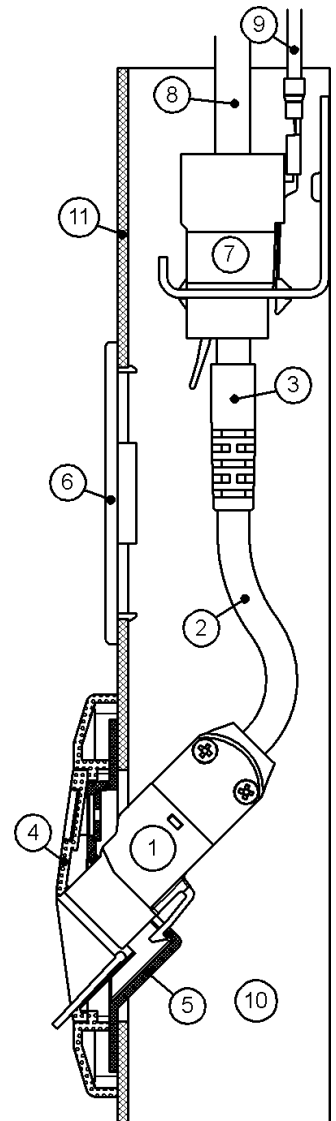
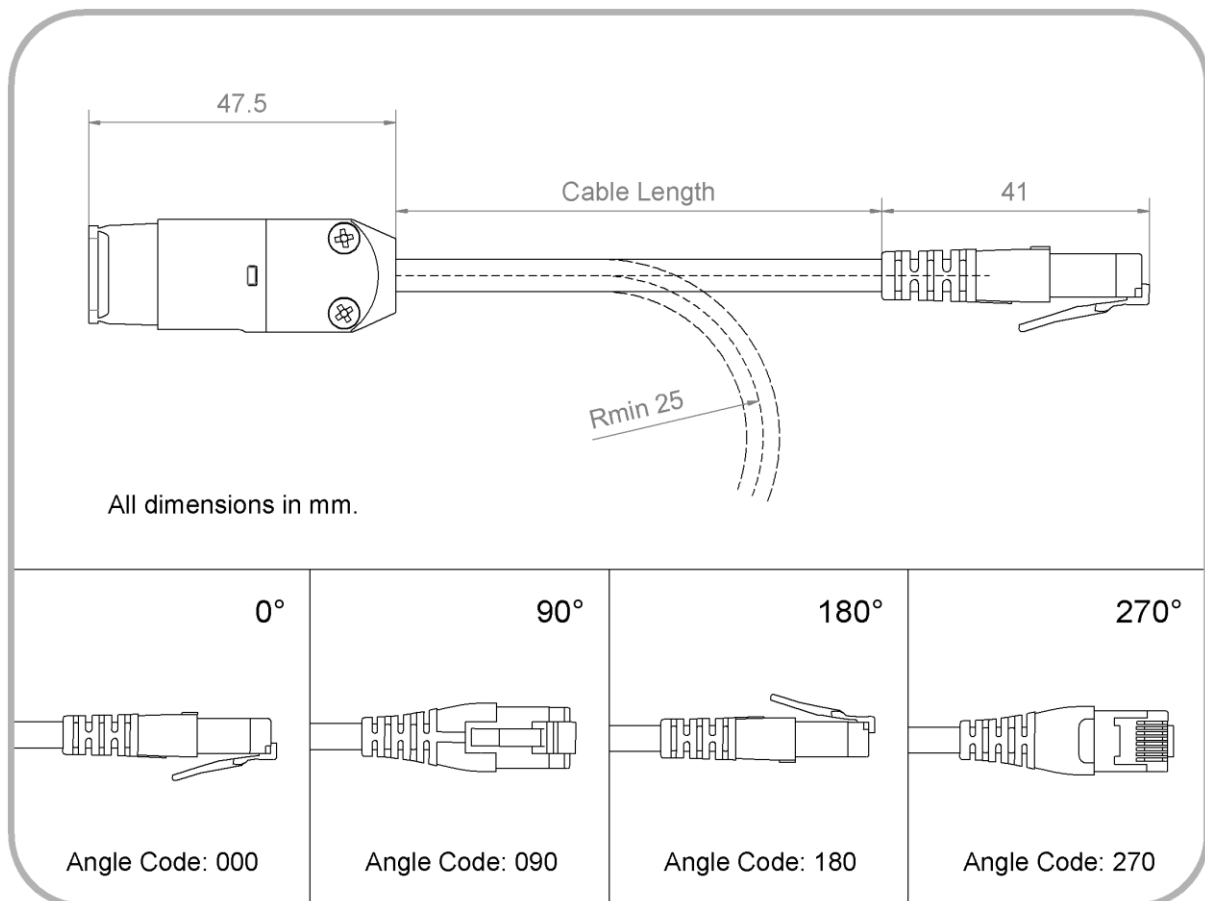
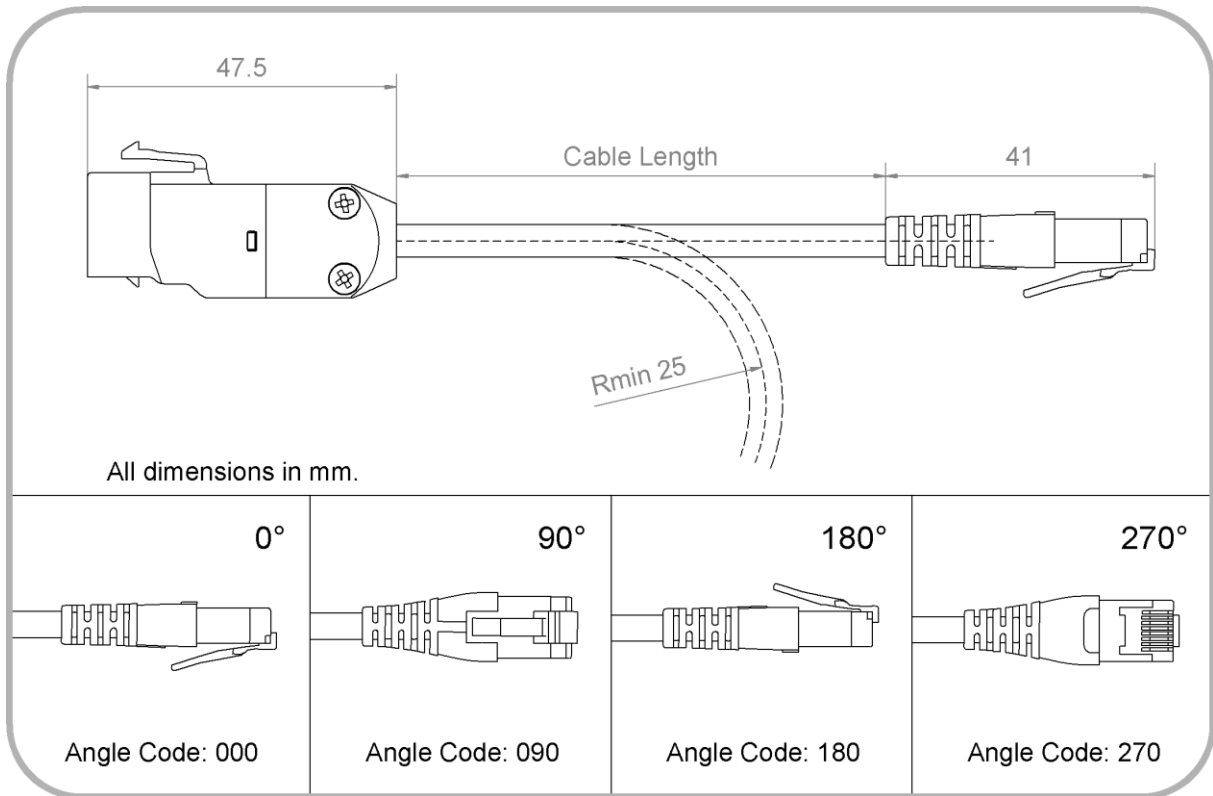

Figure 6
Figure 8. Technical drawing for EN-65S, showing definition of cable length, as well as angle codes.
Figure 9. Technical drawing for EN-65K, showing definition of cable length, as well as angle codes.
Figure 6 shows a typical assembly within a cable duct (10), with cover (11). The Network Isolator EN-65K (1) is shown installed in a Keystone-compatible wall outlet, which usually consists of a support frame (5) and a plastic front panel (4). The RJ45 plug (3) of the Network Isolator is to be inserted into a RJ45 jack module termination (7) at the end of the permanently installed data cable (8). When retrofitting the Network Isolator EN-65K (1) into network channels, the existing RJ45 jack module from the wall outlet can be shifted back within the cable duct (10), and used as the connection to the Network Isolator.
The transmission properties of permanent network installations fitted with EN-65 Network Isolators can be checked with cable certification devices which are suitable for testing electrically isolated cable sections. To be able to conduct such an inspection, the test equipment must be configured in an AC wire-map mode. The entire cable route, including the Network Isolator, can be tested to EIA/TIA-568 Cat.5e or ISO 11801 Class D. Testing of the cable shielding and the conductor resistance is not possible in this mode. If however, these tests are required, or if the quality of the cable route itself needs to be tested (without the Network Isolator), then testing can be performed by bypassing the Network Isolator, and connecting directly to the RJ45 socket ⑦, set back within the cable duct, as indicated in Figure 6.
The length of the flexible cable stub ② (see Figure 6 in section 7.1) of the EN-65 Network Isolator is available in selected lengths from 30 mm to 10 m (inclusive). Refer to Figure 8 and Figure 9, as well as the table in section 10.4. It is recommended that this length be kept to a minimum. When compared to a fixed installed cable, this flexible cable stub may be more susceptible to near end crosstalk (NEXT) and alien crosstalk (AXT). The flexible cable stub itself generates a small, but length-dependent amount of insertion loss (IL).
For flexible cable stub lengths between 30 mm and 500 mm (inclusive), the plug angle can be chosen, easing mechanical constraints in certain assembly configurations, and removing impermissible torsion strains from the cable assembly. Refer to Figure 8 and Figure 9. The manufacturing tolerance for the plug angle is  $\pm 20^\circ$ .
When placing orders for EN-65, please specify the exact Order Code (OC). The order number is a hyphenated concatenation of the Article Number (A10068 for EN-65K, or A10069 for EN-65S), the Length Code for the desired cable length (see section 10.4 above), and the Angle Code for the desired plug angle (see Figure 8 and Figure 9). For flexible cable stub lengths greater than 500 mm, the EN-65 will always be manufactured with a plug angle of 0°, and the Angle Code can be omitted for such orders.